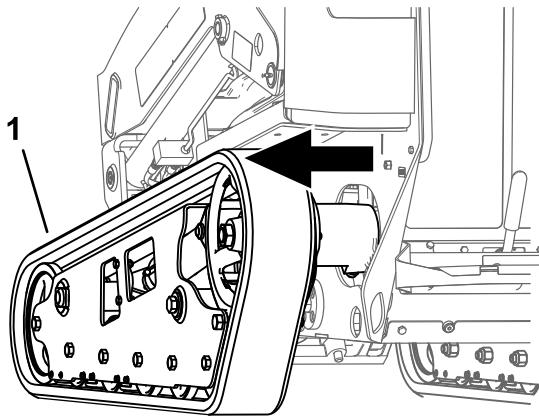

Figure 7
- Using a hoist or forklift capable of lifting 181 kg (400 lb), slide the track assembly from the frame about 15 cm (6 inches) as shown in Figure 7.